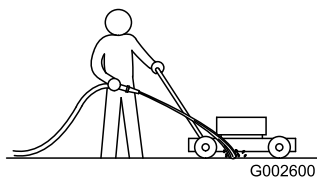

Figure 51
1. With the engine running on a flat paved surface, spray a stream of water in front of the **right** rear wheel (Figure 51).